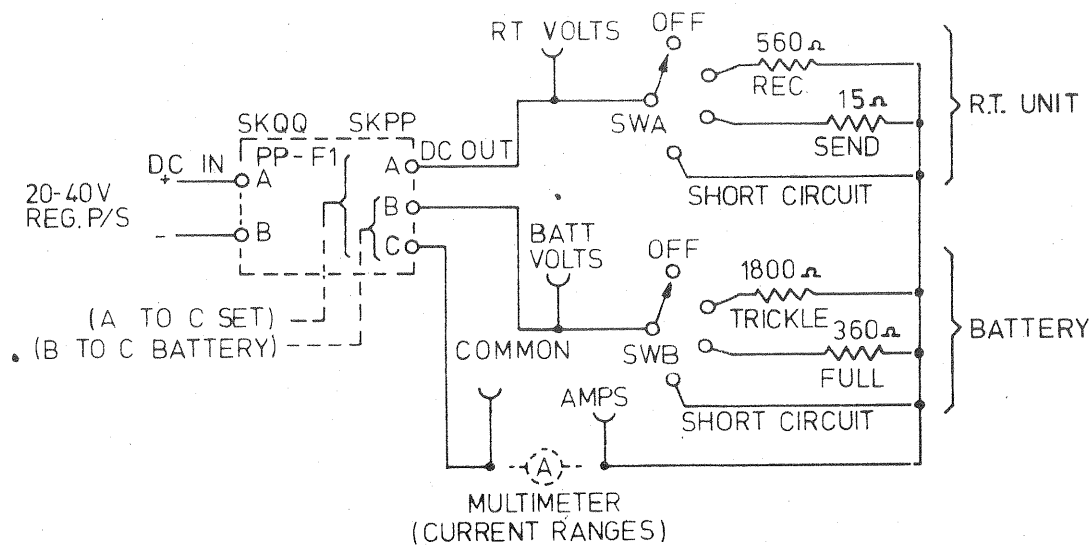

FIG 2 - DUMMY LOAD ELECTRICAL DA-F4 (CIRCUIT)
- b. Connect the PP-F1 unit to the Dummy Load Elec DA-F4 as shown in Fig 2.
- a. Set up equipment as shown in Fig 2.
- Set up equipment as shown in Fig 2.